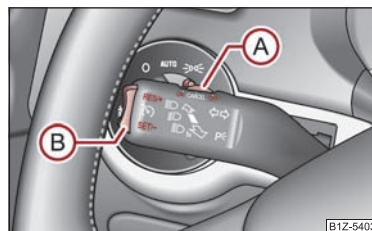

Fig. 117 Operating lever: Rocker button and switch of the cruise control system
The cruise control system is operated by means of the switch **(A)** ⇒ fig. 117 and the rocker button **(B)** in the left lever of the multi-functional switch.
- You can **increase** the stored speed without depressing the accelerator, by pressing the rocker button (B) ⇒ page 110, fig. 117 in the **RES** position.
The **Resumption** of the stored speed is achieved by releasing the brake or clutch pedal, on vehicles fitted with automatic gearbox only after releasing the brake pedal and after shortly pressing the rocker button (B) ⇒ page 110, fig. 117 into the position **RES**.
- Press the switch (A) ⇒ page 110, fig. 117 to the right into position **OFF**. ■